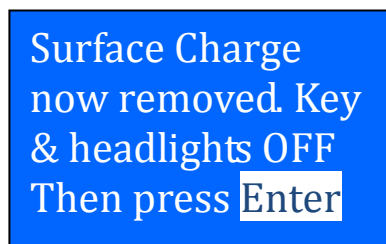

Figure 17
8. Wait until the surface charge removal had completed, the analyzer will advise as follows: (Fig.17) and then press  key.